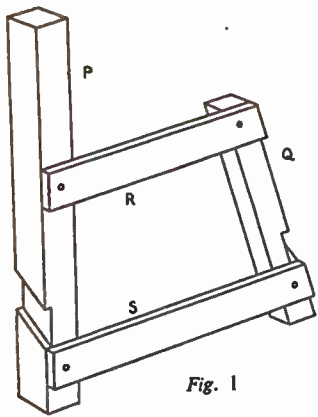

Fig. 1
In building the seat, start first with the end sections. These are easily made, consisting of two legs and two cross battens. (P-Q and R-S in Fig. 1.)
As will be seen from the drawings, the cross-pieces (R) and (S) are at right angles to the front leg (P), but at a slight angle to back leg (Q), owing to the fact that this latter is splayed backwards. The best way to mark out the pieces, therefore, is to lay the legs on the ground, placing the cross-pieces in the correct positions and then marking off the back leg and cross-pieces with a pencil. These can then be sawn. In laying out the woods, remember (R) and (S) must be at right angles to (P). As seen in the drawing (Fig. 1), the top of (R) is 17 ins. and the top edge of (S) is 4 ins. from the bottom of (P). The length of (R) can be 16 ins. with the bottom rail (S) 19 ins.